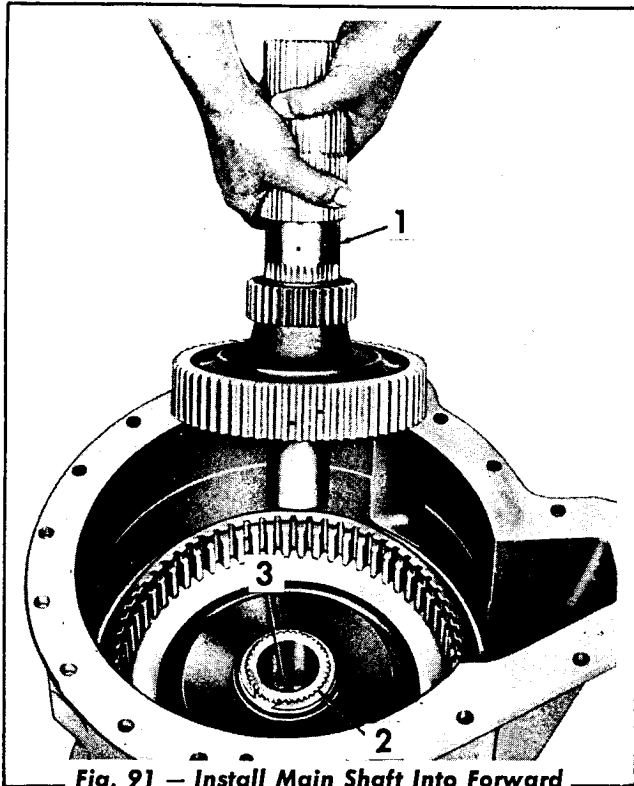

Fig. 91 — Install Main Shaft Into Forward Carrier Hub
7. Install the transmission main shaft and attached parts (Fig. 91) into the forward carrier hub. Be careful not to damage the bushing.